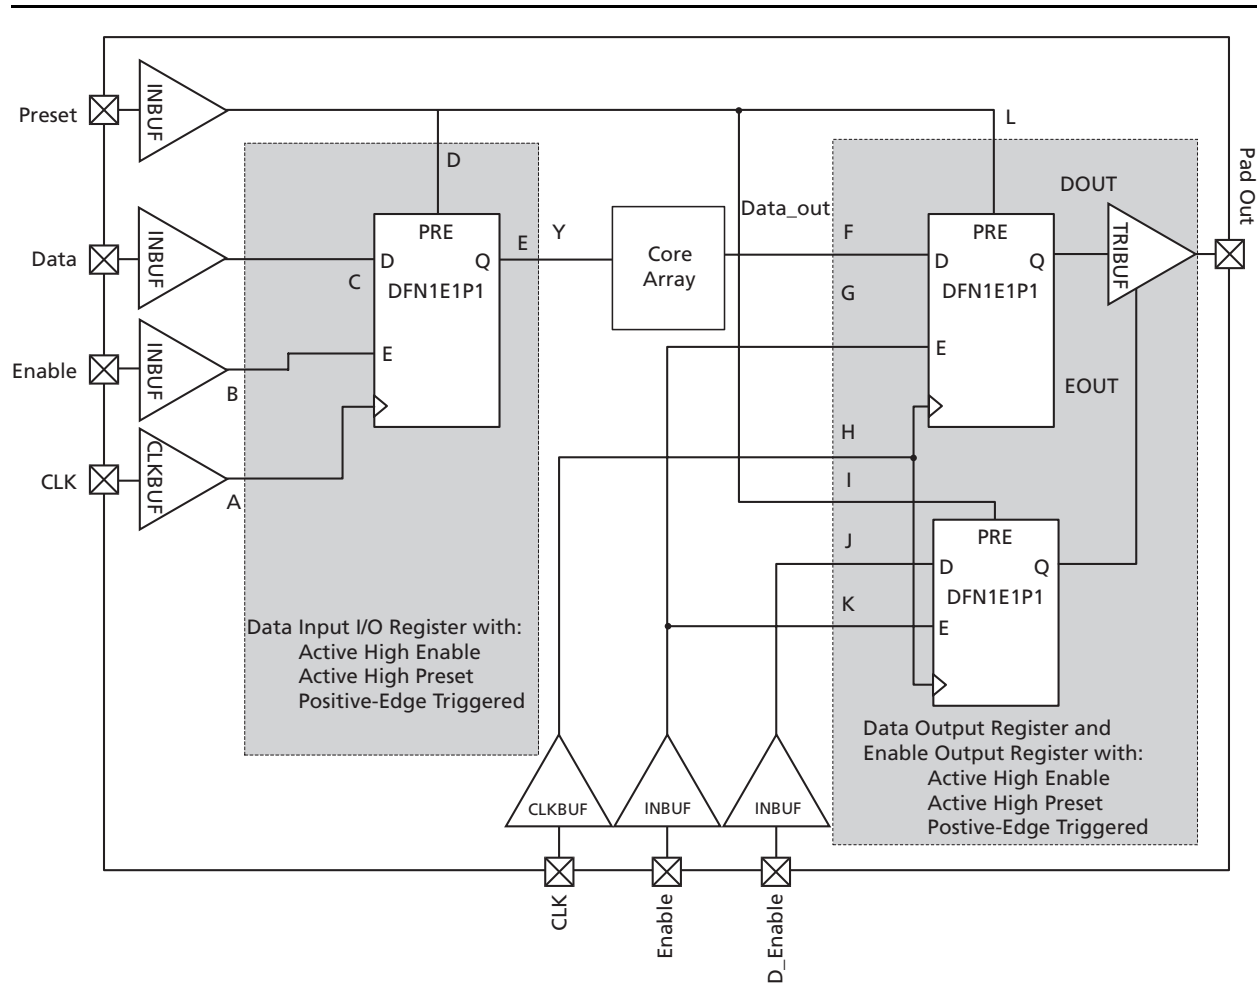

Figure 2-27 • Timing Model of Registered I/O Buffers with Synchronous Enable and Asynchronous Preset
* See *Figure 2-27 on page 2-83* for more information.